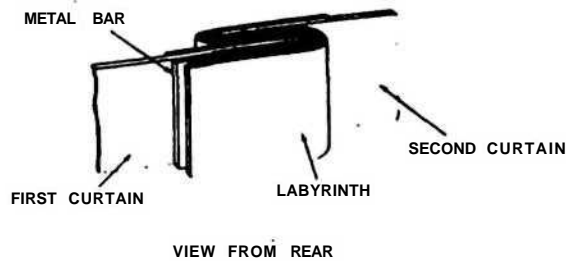

Figure 4-2. Position of Curtain Bar and Labyrinth.
- (6) Wind the shutter about half-way. The crimped edge of the first curtain bar should extend for approximately 0.7mm outside the second curtain labyrinth, when viewed from the rear (fig. 4-2).
- (7) Rotate the second curtain roller with the thumb until a narrow slit is visible between the first and second curtain. The edges of the curtains must be parallel to each other.
- (8) If the edge of the second curtain is not parallel with the first curtain, reglue one of the second curtain ribbons.
- (9) Wind the shutter, set the shutter speed dial to "B". and release the first curtain. Hold the shutter release button in the depressed position.
- (10) Check the position of the second shutter curtain, using gauge 42-253.01-Z1A92. The edge of the curtain should be between 3.05mm and 3.55mm from the edge of the film aperture.
- (11) If the edge of the second curtain is not within the tolerances in (10) above, reposition the curtain. Loosen the two screws of the holding bar. move the curtain, and retighten the screws.
- (12) Release the tension of the second curtain spring roller until the ribbons are slack. Allow 12-hours for the glue to dry before retensioning the spring.
- (13) Retension the second shutter curtain spring roller, and adjust the shutter speeds as described in paragraph 4-8.